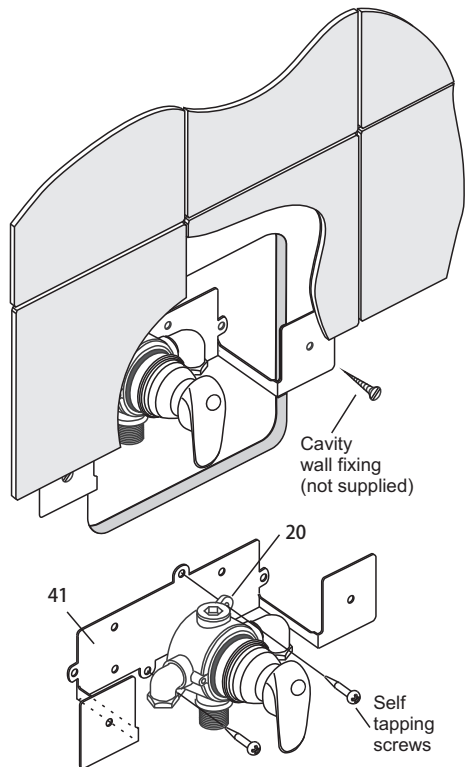

Figure 9 Mounting B/I valve on wall bracket
5. However, a metal mounting bracket may be the best method of mounting when installing built-in valves into walls of timber construction with large cavities and plasterboard facing. The bracket (41), which is an optional extra, will provide stability and ensure that the body is installed at the correct depth. See Figure 9. The bracket is available from IS stockists or directly from IS Showers - contact 0870 129 6086 quoting part number L6714NU
9. Fit the plaster guard (19) and check wall levels agree with those marked on the guard.
mounting flanges as the bracket material is thin enough to be accommodated in the adhesive layer. Figure 9